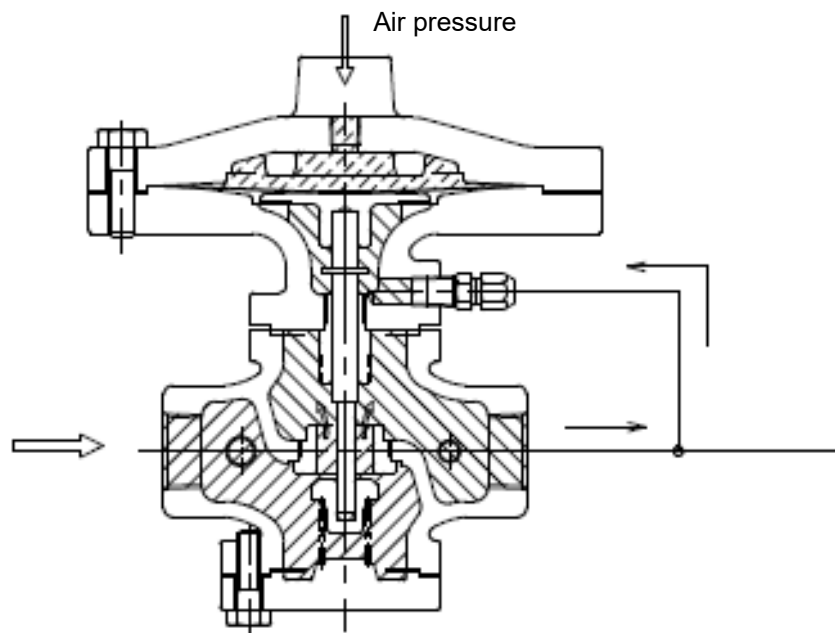

Fig.3
- (3) The flow of pressure proceeds from the reduced pressure sensing pipe through the reduced pressure sensing port [32], and into the main diaphragm chamber [31]. The diaphragm then balances the operating pressure with the reduced pressure. The amount of reduced pressure applied to the diaphragm and operating pressure act on each other to maintain an appropriate reduced pressure by controlling the main valve's opening. (Fig. 3)